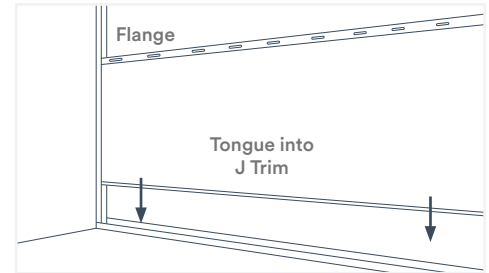

Fig. 13
- The tongue side of the panel should be installed facing towards the floor, the groove (screw flange) side facing towards the ceiling (Fig. 13)